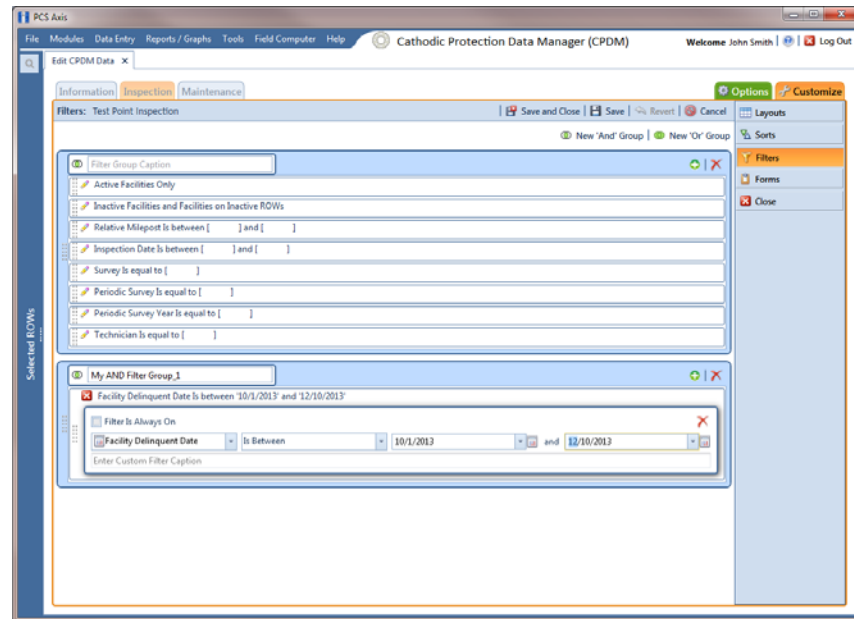

Figure 6-74. Filters
- 5 Click  **New 'And' Group** to open a filter properties group box (Figure 6-74, page 241).
- 8 If the AND filter group includes a date filter, such as *Facility Delinquent Date Is Between* shown in Figure 6-74, set a date range using a calendar or dynamic dates in the following manner: